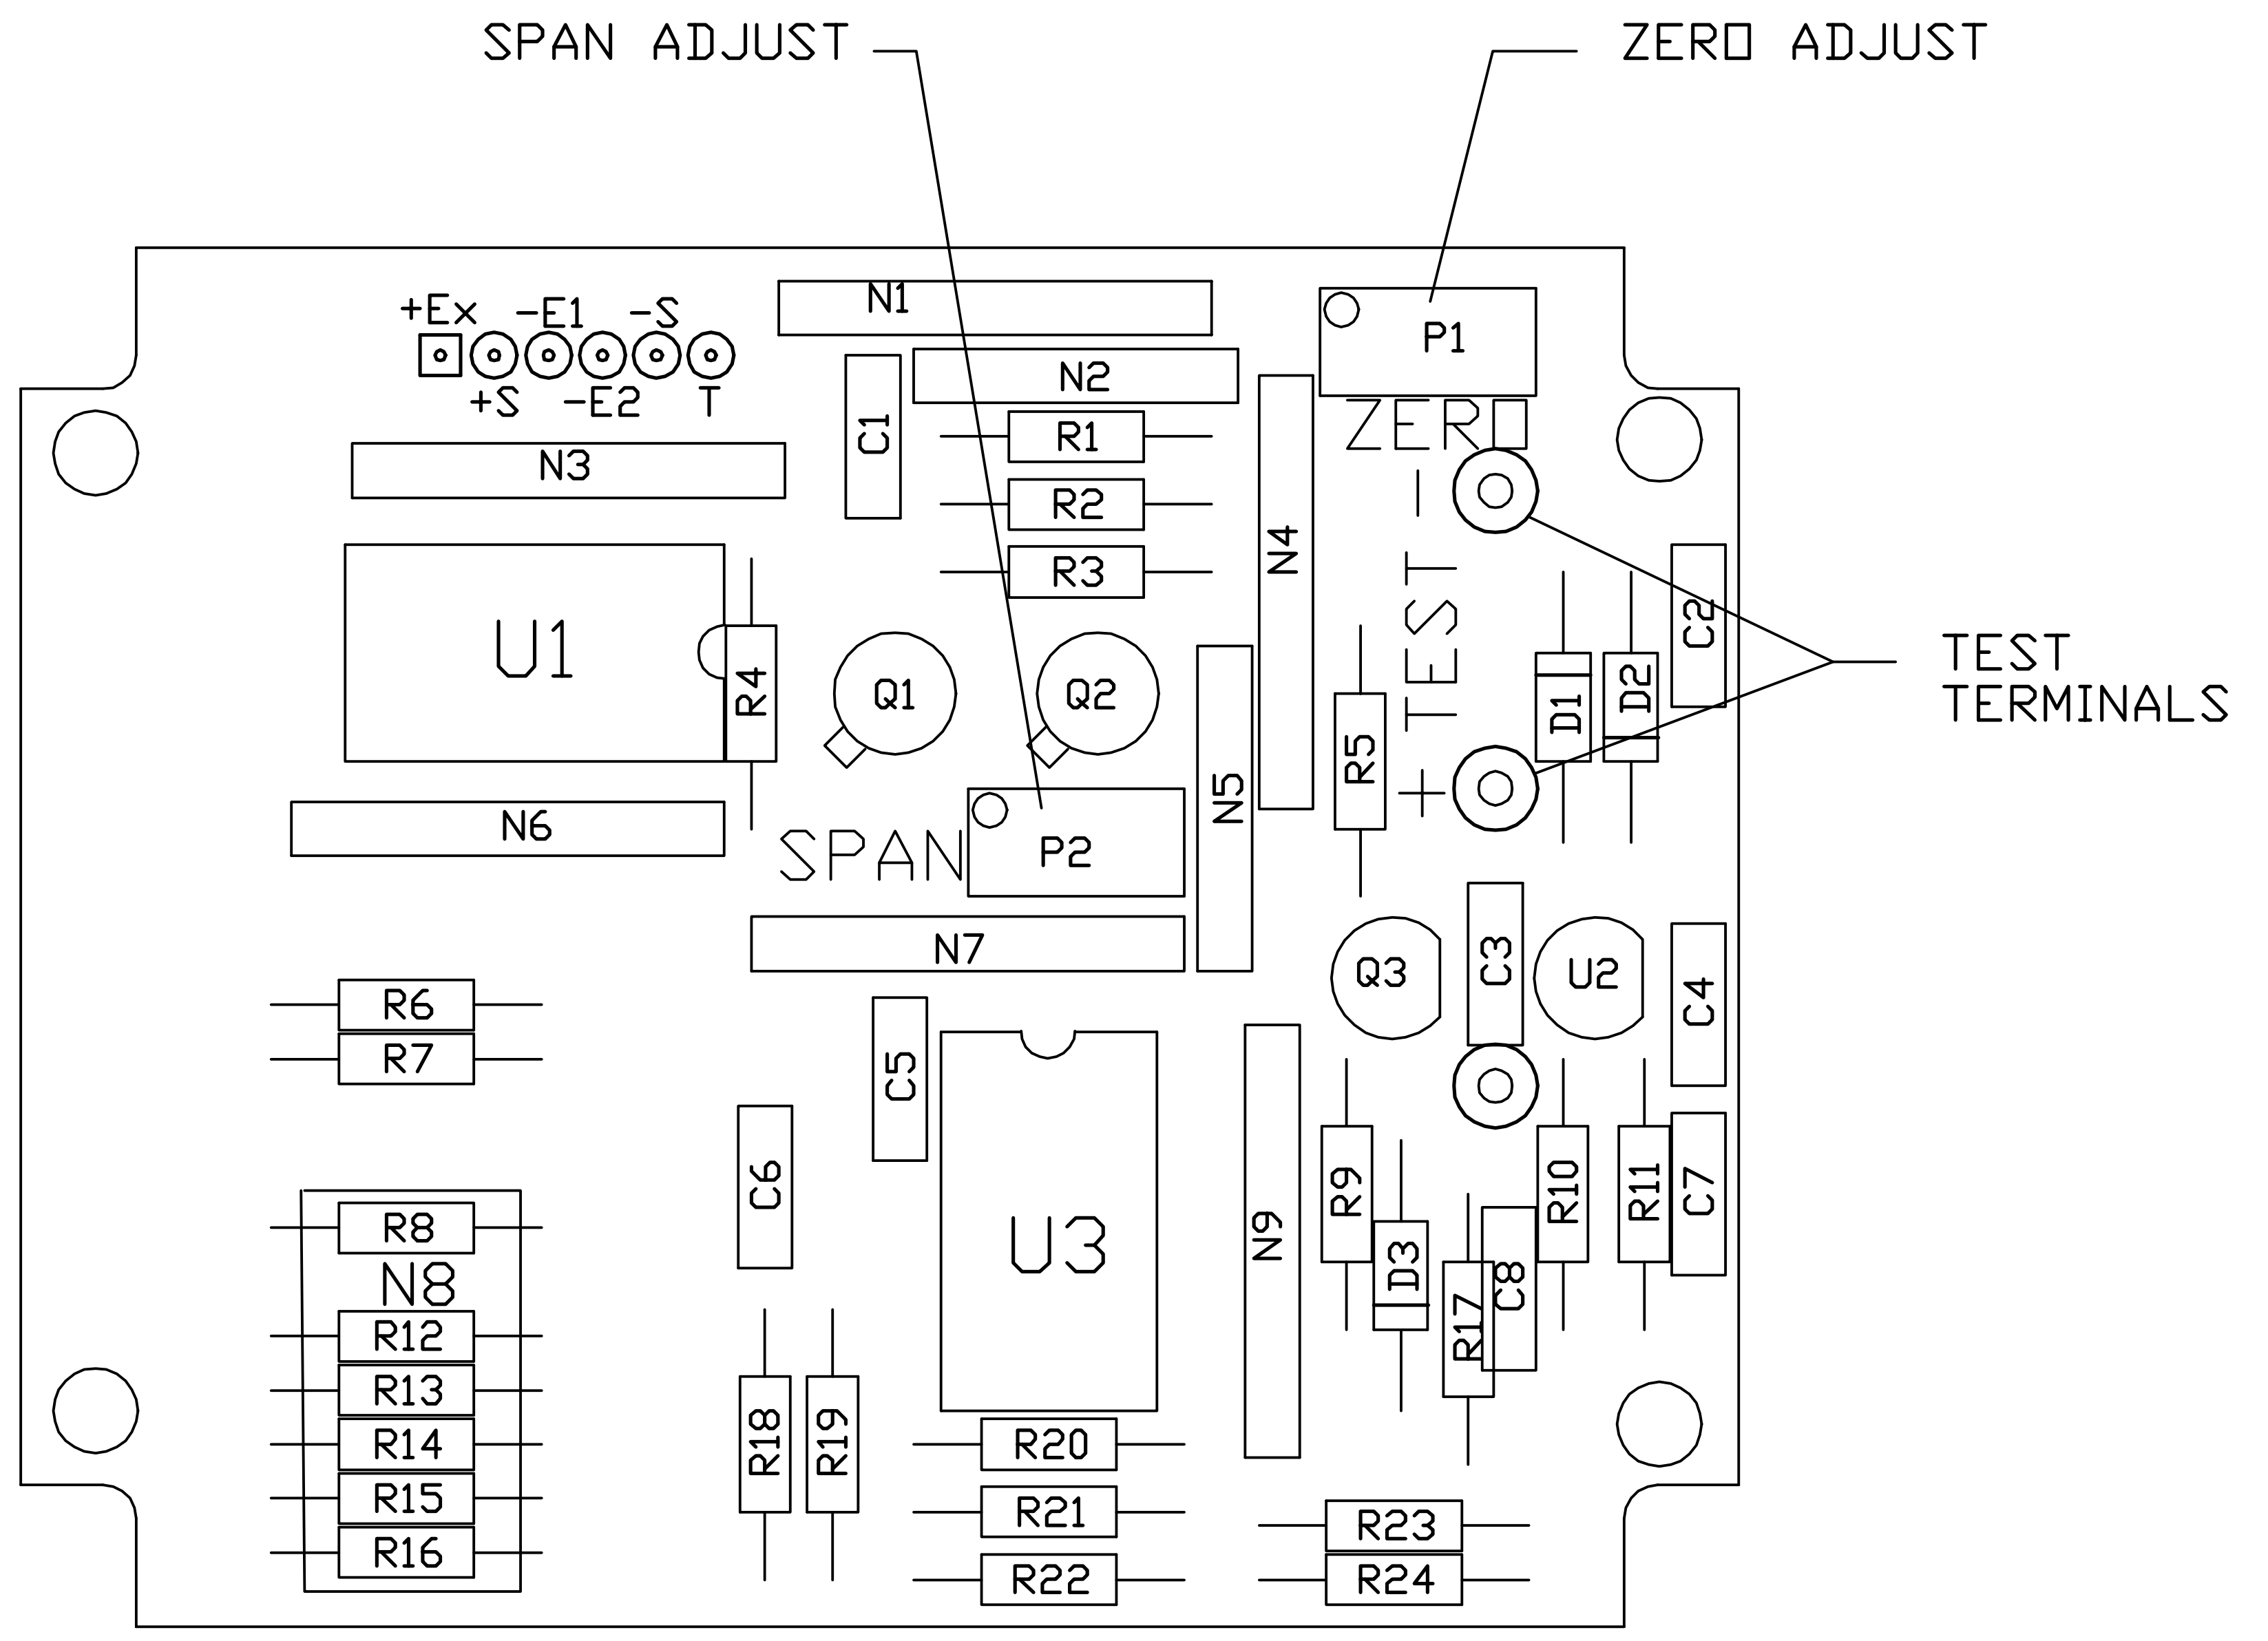

FIGURE 2-1. CONTROLS AND INDICATORS
1-3 Equipment Description. The Model 89D_____2 differential pressure transducer (hereafter referred to as differential pressure transducer) is a piezoresistive strain gage transducer which accepts a differential fluid pressure input and produces an electrical DC current output that is proportional to the applied differential pressure. Input differential pressure ranges vary depending on the model of the transducer. Each differential pressure transducer consists of a piezoresistive strain gage sensor assembly, a main board assembly, a RFI board assembly and a housing assembly (Figure 6-3). Internal service points permit the adjustment of the ZERO and SPAN limits of the differential pressure transducer output. Two polarized TEST points on the main board assembly allow the differential pressure transducer output to be monitored during testing and calibration (Figure 2-1). Connection of the input pressure sources are in accordance with MS16142 utilizing 1/4 inch O.D. tubing. Connection to the differential pressure transducer's output is a MS3102R14S-5P and MS3106R14S-5S connector pair supplied with the differential pressure transducer in accordance with MIL-D-24304B(SH) located on one side of the differential pressure transducer housing assembly. A breather plug is located on the bottom side of the differential pressure transducer housing assembly.
2-2 CONTROLS AND INDICATORS. Operating control and indicators are shown in Figure 2-1.